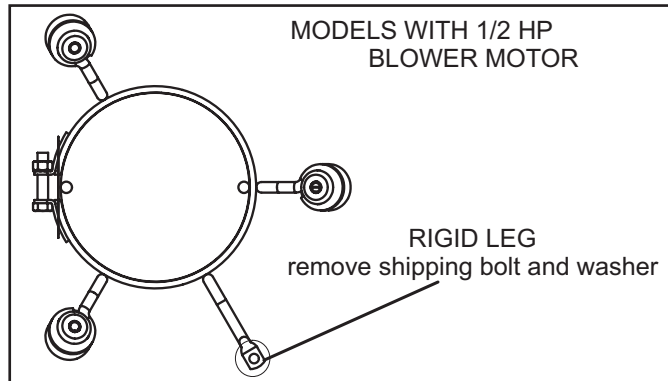

FIGURE 7
**NOTE** - Units with 1/2 hp blower motors are equipped with three flexible legs and one rigid leg. See Figure 7. The rigid leg is equipped with a shipping bolt and a flat white plastic washer (rather than the rubber mounting grommet used with a flexible mounting leg). **The bolt and washer must be removed before the furnace is placed into operation.** After the bolt and washer have been removed, the rigid leg will not touch the blower housing.